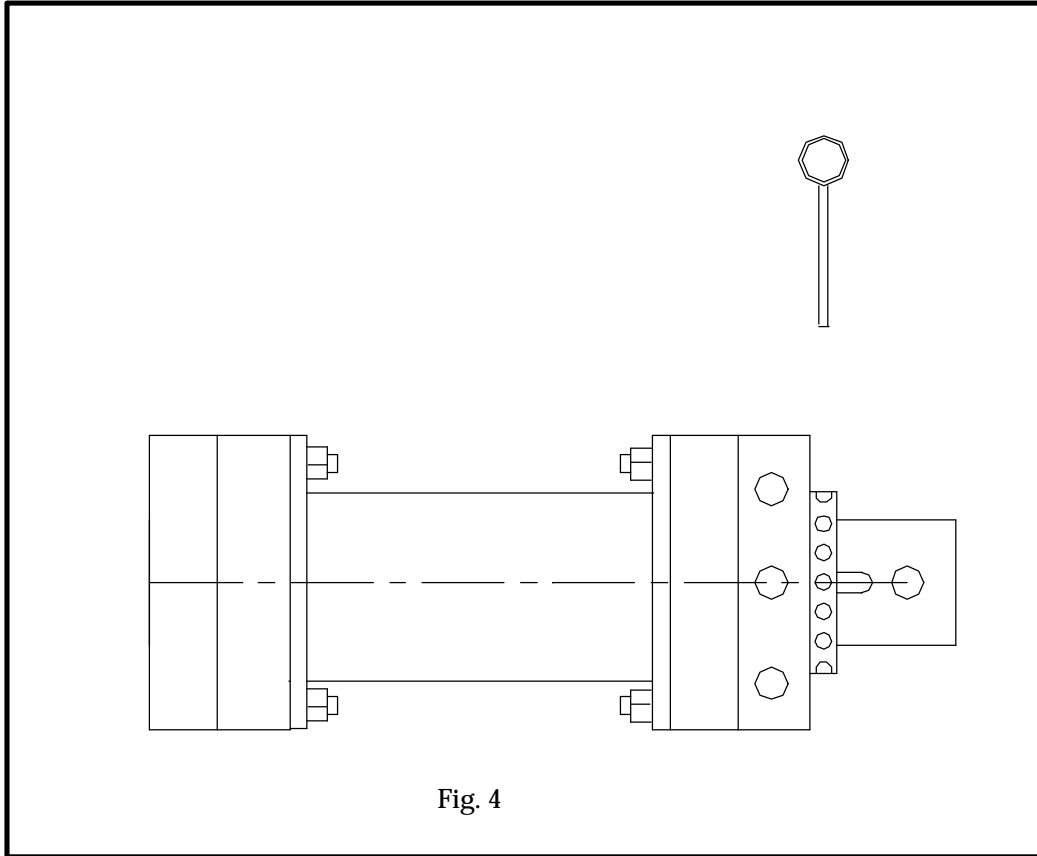

Fig. 4
You are now ready to tension the cleaner. Holding the blade against the belt, place the wrench into the outer hub and rotate it in the direction of belt travel, approximately two (2) holes (see fig. 4), and reinsert the tensioner pin. **That's it!**